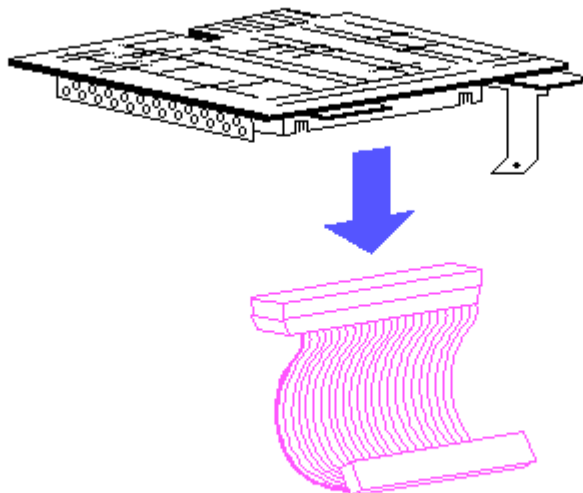

Figure 8-37. Disconnecting the Plasma Display Controller Board Cable
13. Disconnect the display controller board data cable from the controller board (Figure 8-37).